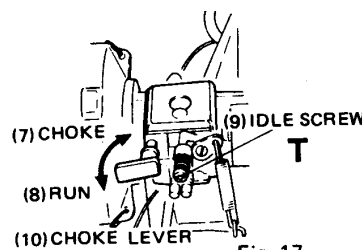

Fig. 17
- b. If you need an idle adjustment M, turn idle screw clockwise for higher RPM and for lower RPM, counterclockwise. (Fig. 17)